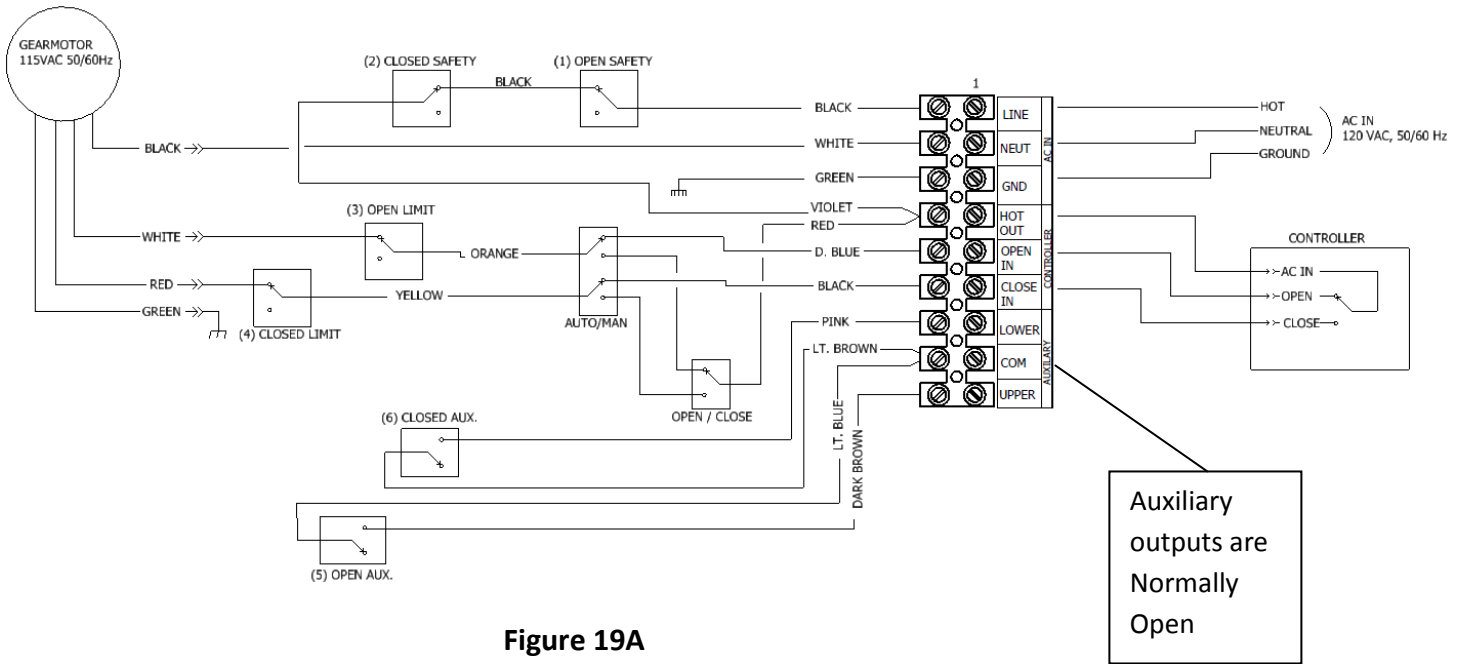

Figure 19A
12. Connect wiring to machine per **(Figure 19A or 19B)** depending upon input voltage. All wiring must be done in accordance to national and local electrical codes.